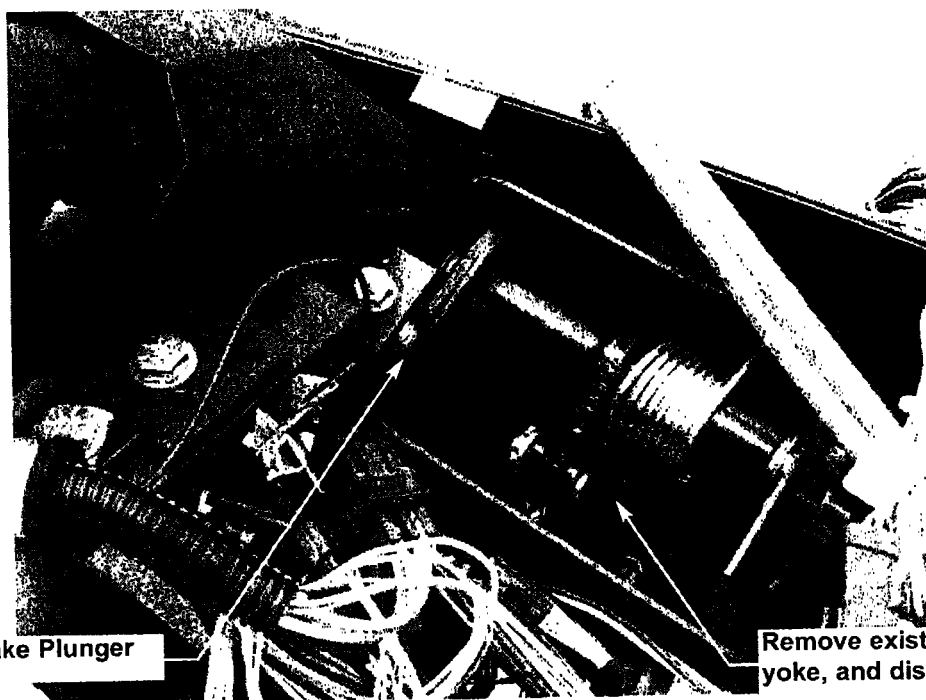

Figure 1
2. Locate the brake plunger and yoke assembly. **Figure 1**